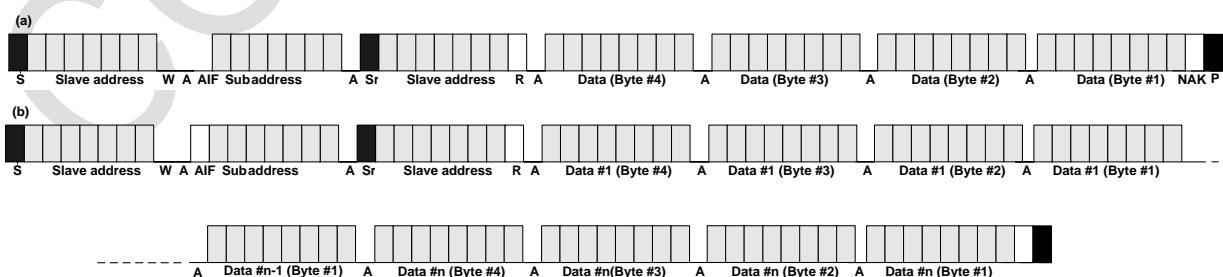

**Figure 8. Single Byte Read Mode Sequence**
**Figure 8-(a)** represents single byte reading operation from the NTP8808. To read data from the NTP8808, generate start condition to start transfer. After then, send “slave address” with write mode flag and send the register address(sub address). By regenerating start condition (Sr) again and transferring “slave address” with read mode flag, reading operation begins. The NTP8808 will generate data on SDA signal synchronizing with serial clocks on the SCL. Because the SDA signal generated from the NTP8808, the master device must generate ACK on 9th slot to confirm that the master received read 1 byte successfully. However, if this is just one byte reading operation, NAK (not acknowledged) signal must be generated. Then stop condition must be generated to end transfer.
When AIF set to high on sub address like **Figure 8-(b)**, data will be read continuously with register addresses which are increased from initial “sub address” for every byte. In continue reading operation, the master must generate ACK signal on every 9th bit of the packet to confirm that master has received 1 byte successfully. Otherwise, reading operation will be terminated.
The type presented on **Figure 9-(b)** is quad byte read operation under address auto increment mode, AIF function. Please compare the data receive size between **Figure 8** and **Figure 9**.